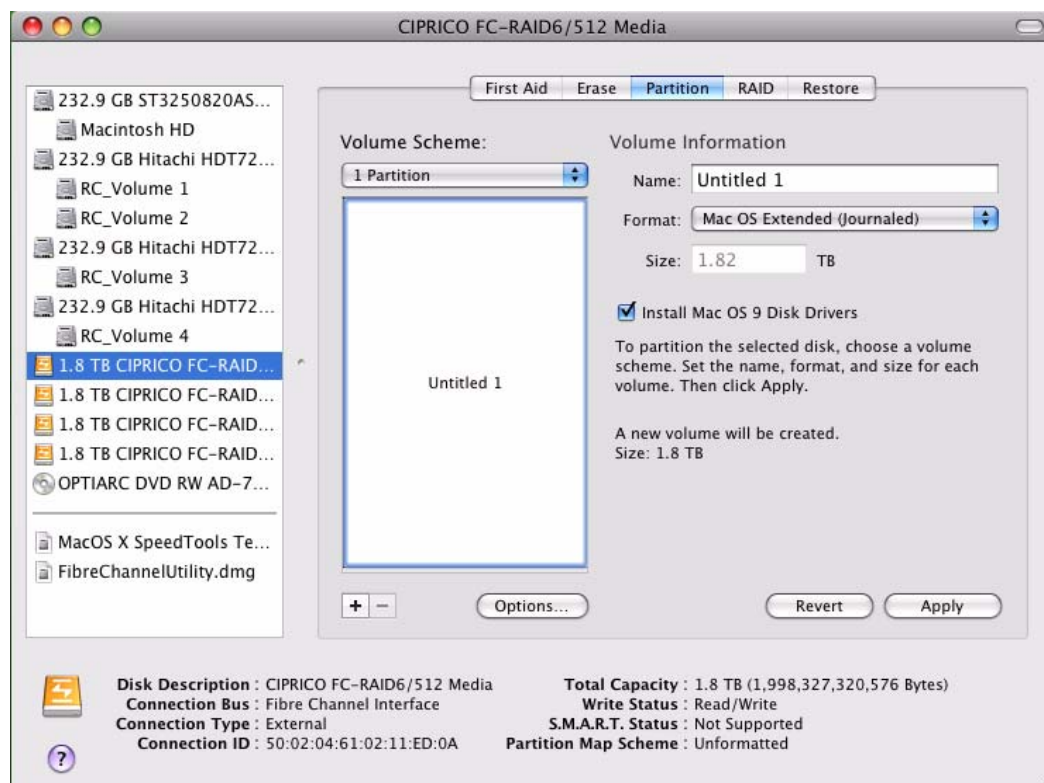

FIGURE 6-5. The Apple Disk Utility Screen, After Selections Are Made.
- At the “Volume Scheme:” field choose “1 partition”. See Figure 6-5.
- At the “Name:” field, under “Volume Information,” choose a name for the volume. See Figure 6-5.
- In the “Format:” field, select “Mac OS Extended (Journaled)”. See Figure 6-5.
- Click the **PARTITION** button at the lower section of the screen. See Figure 6-5.